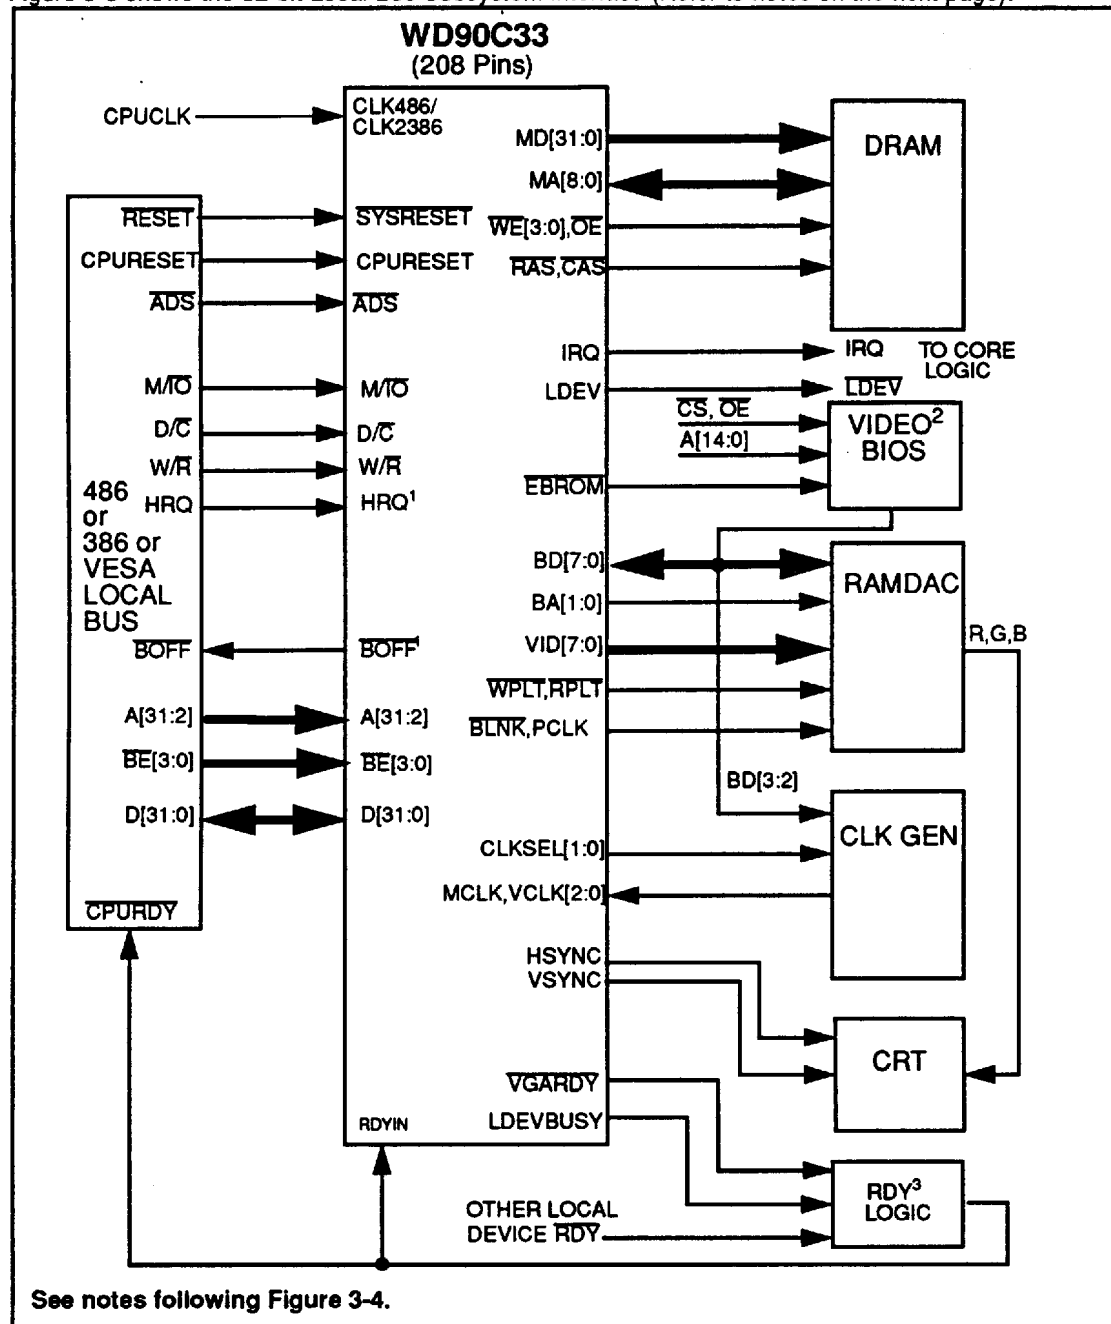
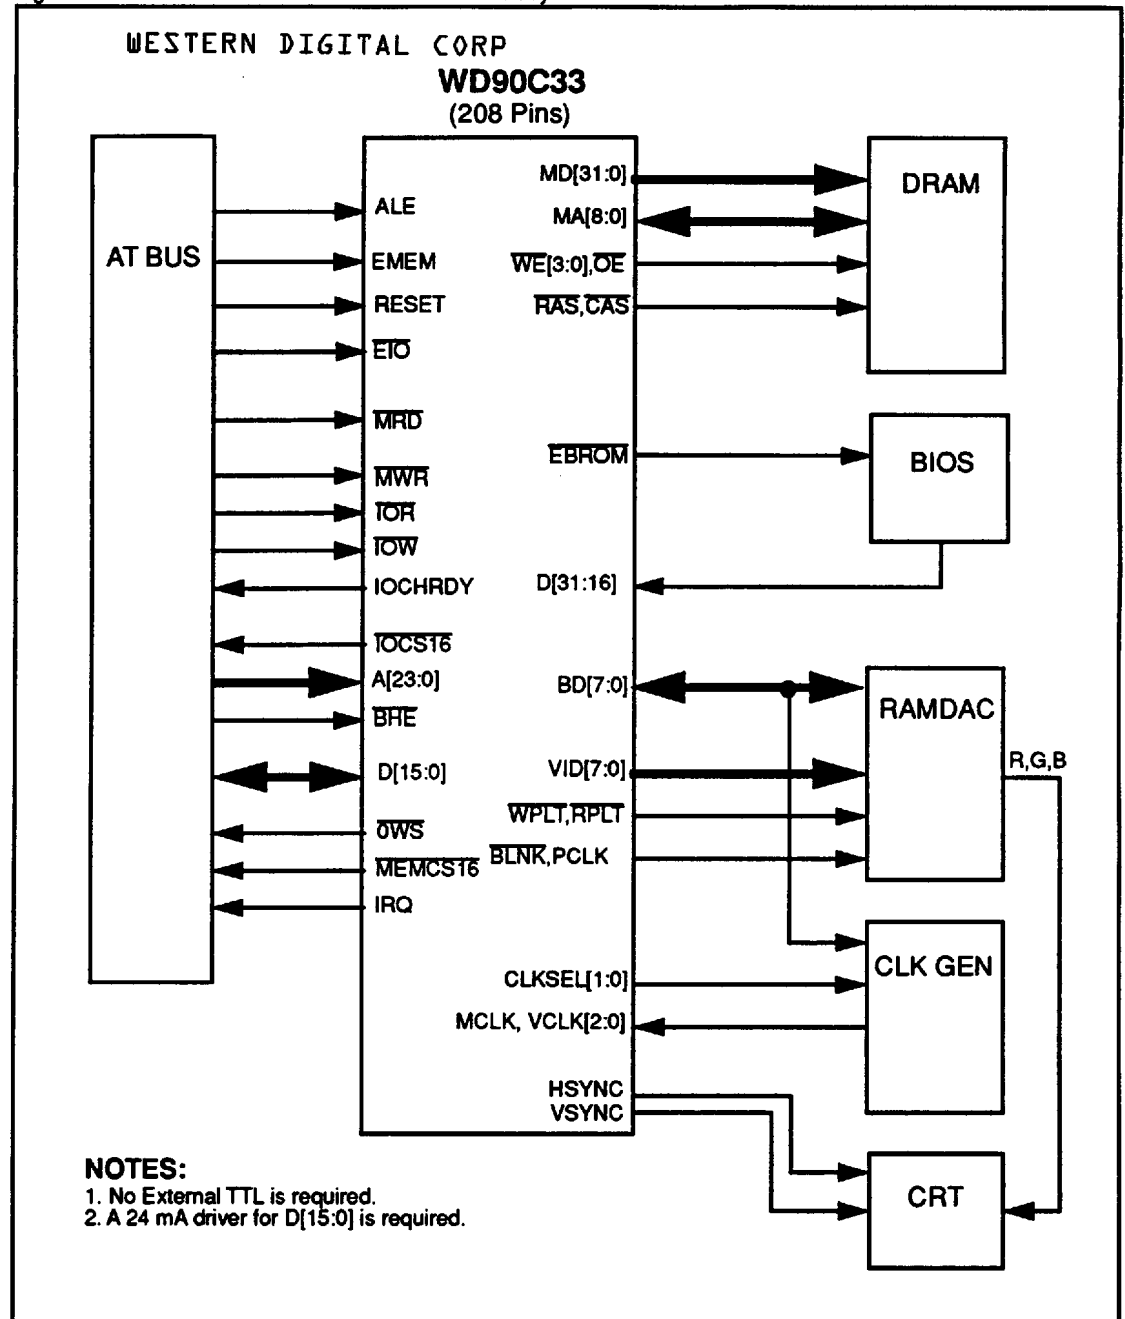

FIGURE 3-3 LOCAL BUS SUBSYSTEM INTERFACE, 32-BIT
FIGURE 3-4 AT/MICROCHANNEL BUS SUBSYSTEM
- Figure 3-3. AT/MicroChannel Bus Subsystem
- Figure 3-4. Local Bus Subsystem Interface
The WD90C33 also operates in both the AT Bus and the PS/2 MicroChannel bus architecture configurations (see Figure 3-4). The selection of the bus architecture determines the operating mode, and is selected by the state of Configuration Register bit CNF(2) during power-on or system reset as described in Section 9.
Figure 3-3 shows the 32-bit Local Bus Subsystem Interface (Refer to notes on the next page).
Figure 3-4 shows the AT/MicroChannel Bus Subsystem.
NOTES FOR FIGURE 3-3
The WD90C33 uses memory data connector pins to configure an internal configuration register during power-on or system reset as described in Section 9. Configuration bit CNF(2) determines whether the WD90C33 will operate in AT or MicroChannel Architecture (MCA) implementation (AT or MicroChannel Interface Mode as shown in Figure 3-4). Configuration bit CNF(11) determines whether the WD90C33 will operate in the Local Bus or AT bus mode as shown in Figure 3-3.